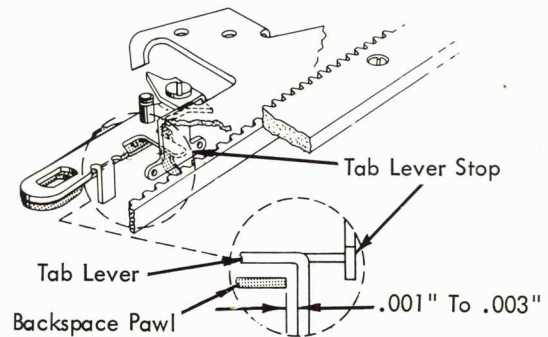

FIGURE 162. Tab Lever Stop
3. Tab Lever Stop (Fig. 162) - Form the stop on the escapement bracket to obtain  $.001'' - .006''$  clearance between the vertical lug on the tab lever and the backspace pawl when the tab lever is at rest and the backspace pawl is fully seated in its rack. On printers without backspace, adjust for  $.001''$  to  $.007''$  between vertical lug on the tab lever and the escapement pawl.